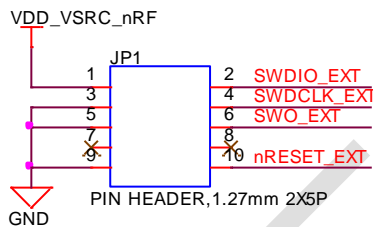

Figure 7: BL653 $\mu$  development board schematic
**Note:** Reference on the BL653 $\mu$  development board schematic (Figure 7) shows the DVK development schematic wiring only for the SWD (JTAG) connector and the BL653 $\mu$  module JTAG pins.
SWD (JTAG) is required because Nordic SDK applications can only be loaded using the SWED (JTAG) (*smart*BASIC firmware can be loaded using SWD (JTAG) as well as over the UART). We recommend that you use SWD (JTAG) (2-wire SWD interface) to handle future BL653 $\mu$  module firmware upgrades. You **must** wire out the JTAG (2-wire SWD interface) on your host design (see Figure 7, where the following four lines should be wired out – SWDIO, SWDCLK, GND, and VCC). *smart*BASIC firmware upgrades can still be performed over the BL653 $\mu$  UART interface, but this is slower than using the BL653 $\mu$  JTAG (2-wire SWD interface) – (60 seconds using UART vs. 10 seconds when using JTAG).
We recommend that you use JTAG (2-wire interface) to handle future BL653 $\mu$  module firmware upgrades. You MUST wire out the JTAG (2-wire interface) on your host design (see Figure 7, where four lines should be wired out, namely SWDIO, SWDCLK, GND and VCC). Firmware upgrades can still be performed over the BL653 $\mu$  UART interface, but this is slower (60 seconds using UART vs. 10 seconds when using JTAG) than using the BL653 $\mu$  JTAG (2-wire interface). JTAG may be used if you intend to use Flash Cloning during production to load *smartBASIC* scripts.